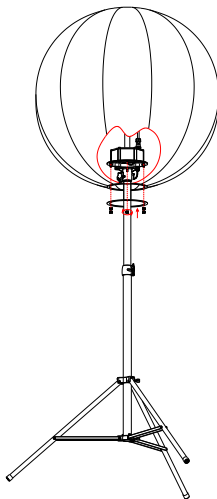

Fig.4 Envelope Attachment
- 4.Screw the upper internal-thread lamp pole onto the top thread of lamp head.(See Fig.4)